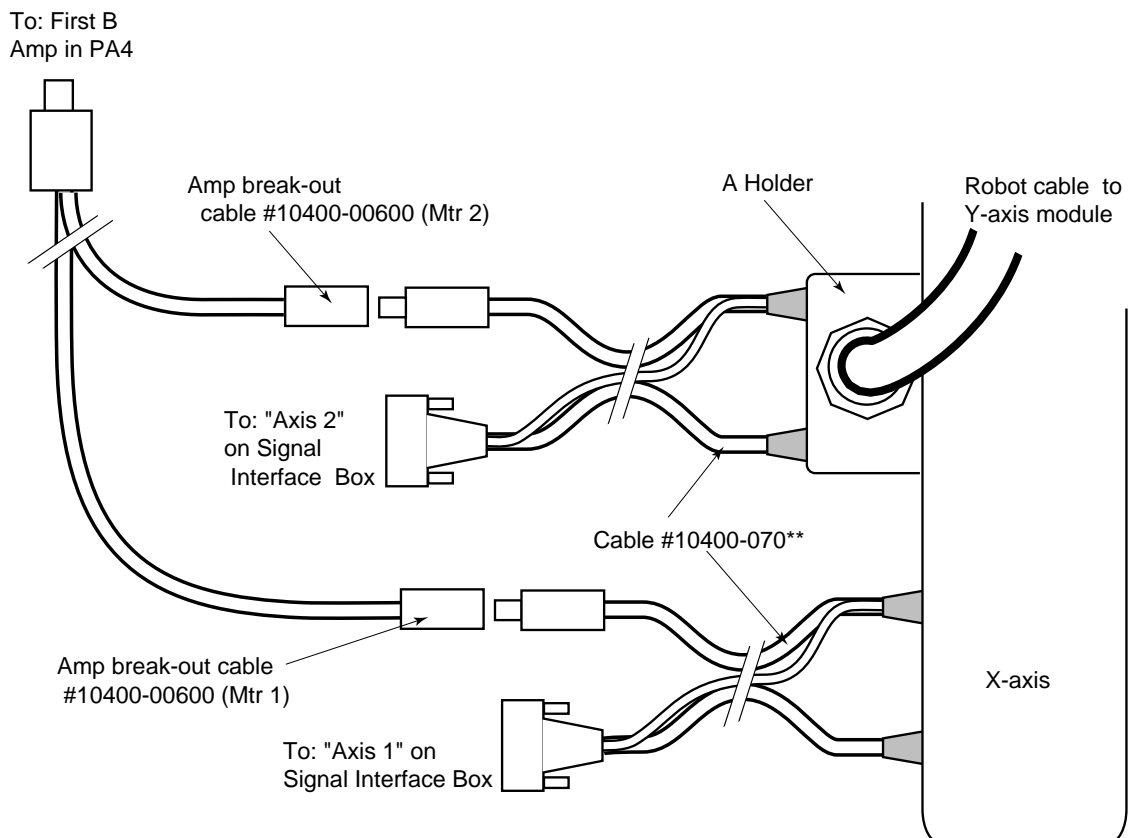

Figure 4-9. Connecting to an Adept MV Controller
- a. Connect the two barrel ends of the cable to the X-axis module as shown in Figure 4-9. These connectors have different pin sizes and cannot be installed incorrectly.
- c. Attach the A holder end of the robot cable to the side of the M module as shown in Figure 4-9 (refer to Section 4.3 for holder rotation and mounting).
- e. Connect the two barrel ends of the cable to the A holder as shown in Figure 4-9. These connectors have different pin sizes and cannot be installed incorrectly.